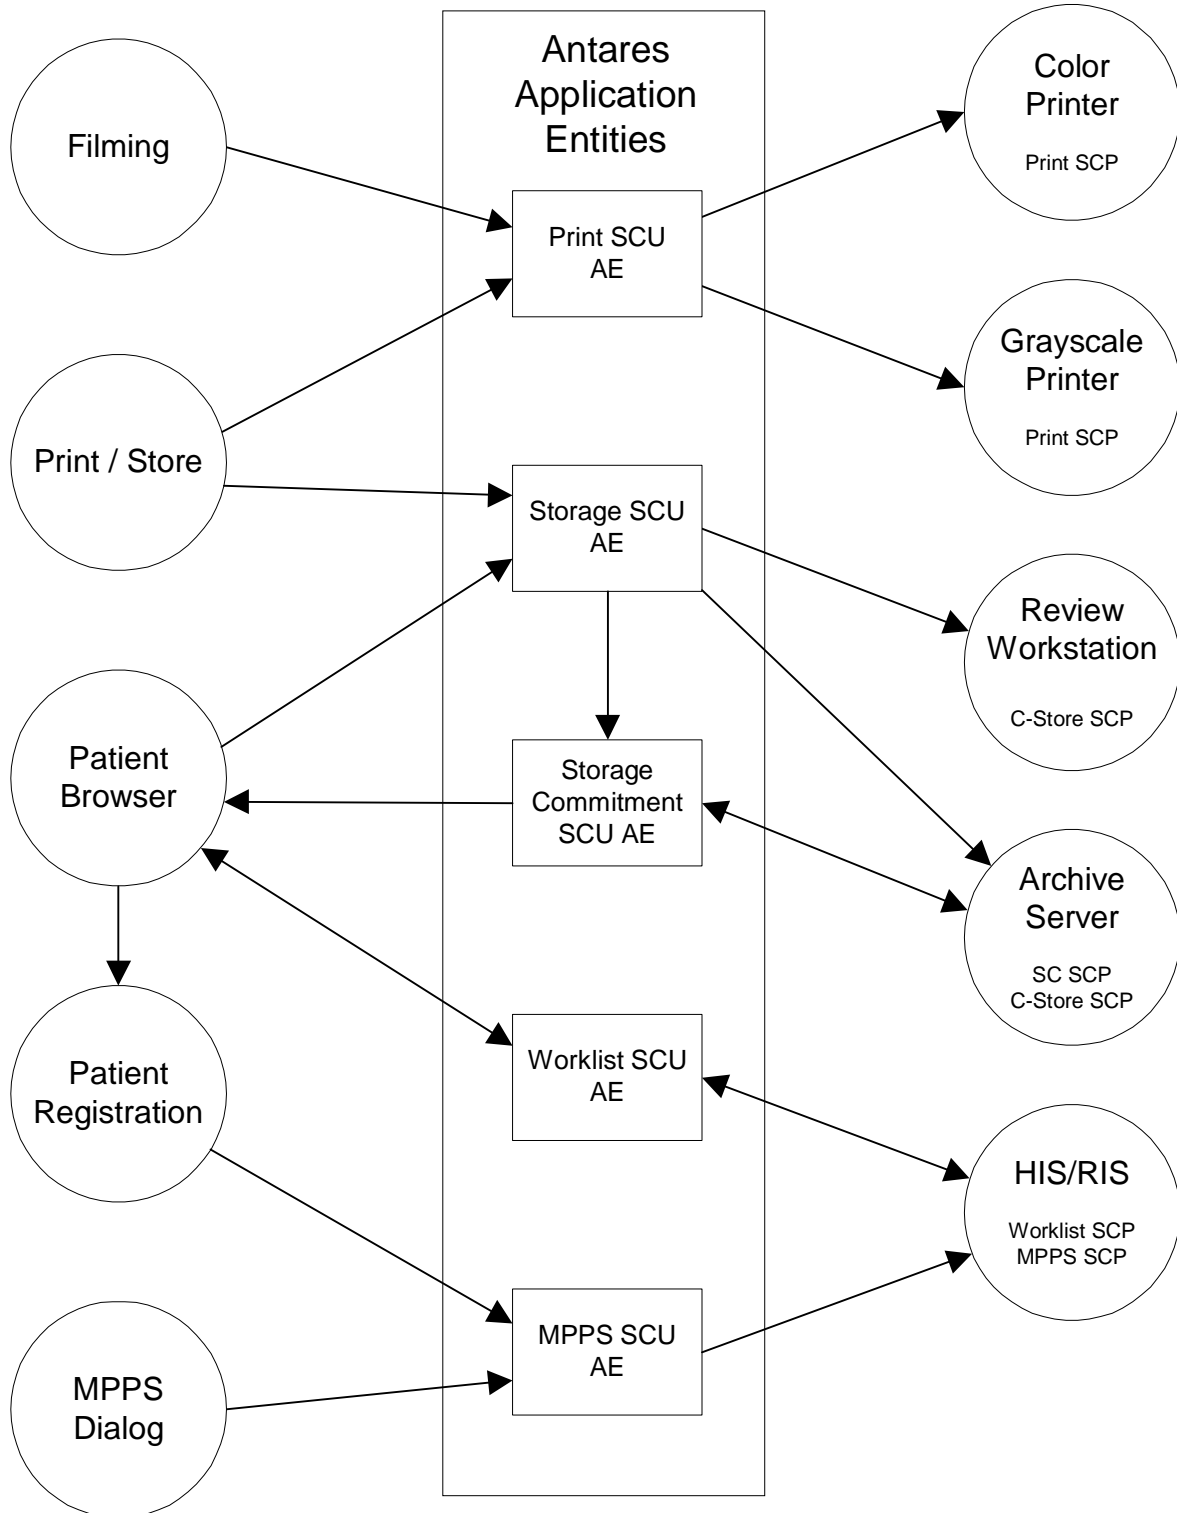

Figure 7: Implementation Model
Figure 7 on page 14 illustrates the SONOLINE Antares system Application Entities (AE) in the context of the implementation model. Relationships between users invoked activities (in the circles at the left of the AEs) and the associated real-world activities provided by DICOM service providers (in the circles on the right side of the diagram) are shown.
The following specifications apply to the AE as depicted in Figure 7 on page 14. The Antares AE provides conformance to the following DICOM Service SOP Classes as an SCU.